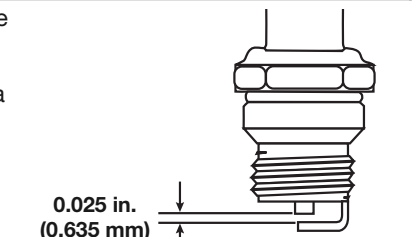

Fig. 32
- Replace cracked, fouled or dirty spark plug. Set the air gap at **0.025 in. (0.635 mm)** using a feeler gauge (Fig. 32).